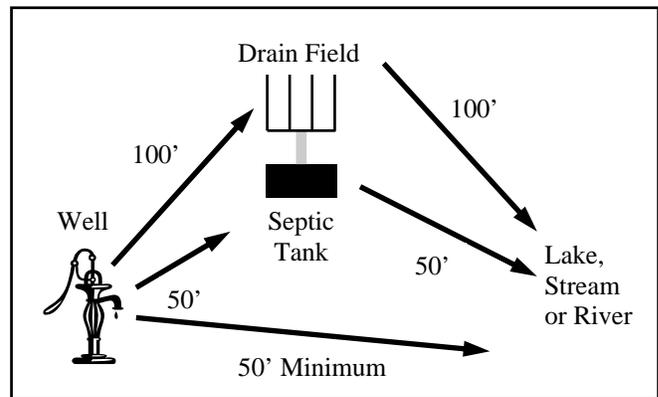

Figure 3-1. Panhandle Health District minimum separation distance requirements between drinking water wells and possible sources of contamination.
- Follow at least the required minimum distances from potential contamination sources that are set by PHD and local ordinances when locating your new well (Figure 3-1).
IDWR “Well Construction Standard Rules” (IDAPA 37.03.09) require that constructed wells must meet all site and distance requirements set forth by PHD and IDEQ. IDAPA 37.03.09 requires a minimum distance of 100 feet from a septic drainfield to a well (Figure 3-1). This separation distance allows for natural protection provided by the soil. Soil type will ultimately determine a safe distance. For more information contact PHD (see Resource Directory, p. 3-7).